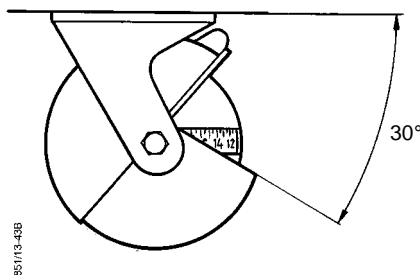

Fig 51. Angle between the compass and the ceiling
1. Check that the angle between the fixed shell of the compass upper edge and ceiling is 30° , see fig 51. If not, untie the screws on the side, turn the compass to the correct direction and tie the screws.